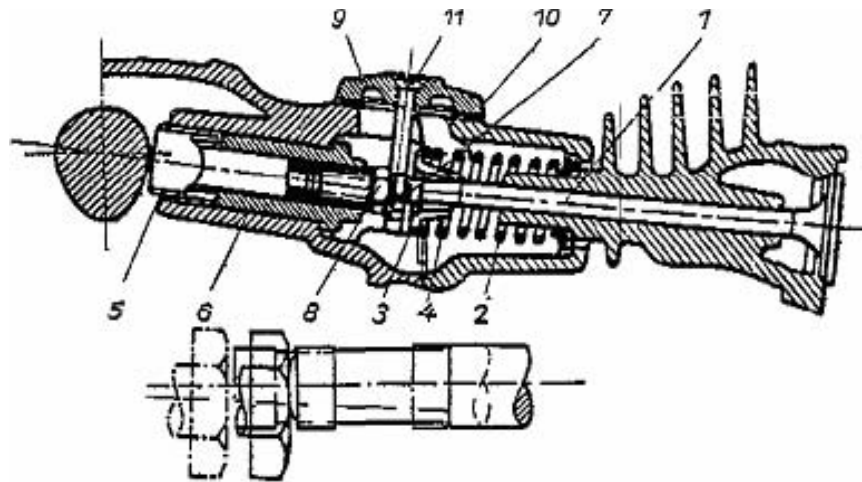

Fig 9
1. Remove the screw (11, fig. 9) and the covers as well as the seal.
3. For the adjustment of the gap one must loosen the lock nut (8) and turn the adjusting screw (nut) (7) of the tappet in the direction necessary to increase or decrease the gap between the shank & tappet to 0.1mm. If a gap is not present or is under 0.1mm, then the valve will not seat firmly.
4. Retighten the lock nuts (8), replace the seals, covers and cover screws and repeat the procedure on the other cylinder.